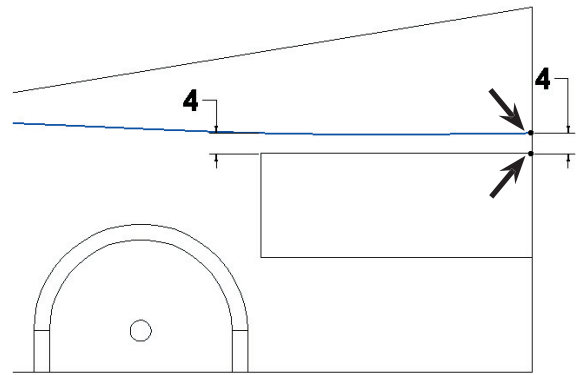

Fig. 26
Step 12. Add **dimension between end of spline and cartridge cutout top back corner** as shown in **Fig. 26**. To Smart dimension click the end of spline point and the cartridge back corner, then move the cursor up off the sketch and click. Key-in **4** for the dimension and press ENTER.